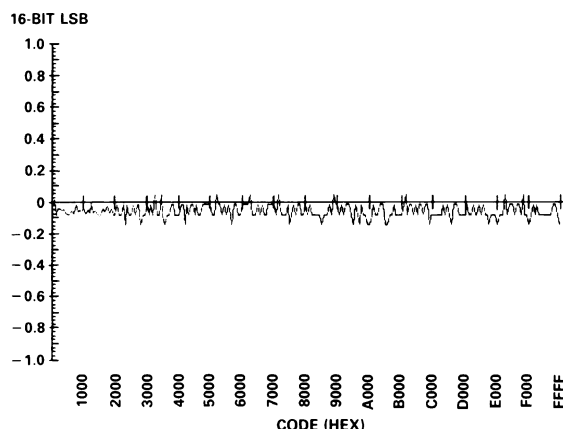

Figure 5. Typical DNL at Segment Boundary Transitions
**DIFFERENTIAL NONLINEARITY:** DNL is the measure of the change in the analog output, normalized to full scale, associated with a 1 LSB change in the digital input code. Monotonic behavior requires that the differential linearity error be less than 1 LSB over the temperature range of interest. For example, for a  $\pm 5$  V output range, a change of 1 LSB in digital input code should result in a 152  $\mu$ V change in the analog output (1 LSB = 10 V/65,536). If the change is actually 38  $\mu$ V, however, the differential linearity error would be  $-114 \mu$ V, or  $-3/4$  LSB. By leap-frogging the buffer amplifier taps on the first divider, a typical AD569 keeps DNL within  $\pm 38 \mu$ V ( $\pm 1/4$  LSB) around each of the 256 segment boundaries defined by the upper byte of the input word (see Figure 5). Within the second divider, DNL also typically remains less than  $\pm 38 \mu$ V as shown in Figure 6. Since the second divider is independent of absolute voltage, DNL is the same within the rest of the 256 segments.